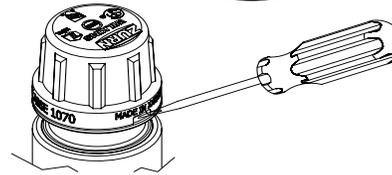

FIGURE 1
2. Remove the green plastic cap with a flat head screw driver (figure 1).